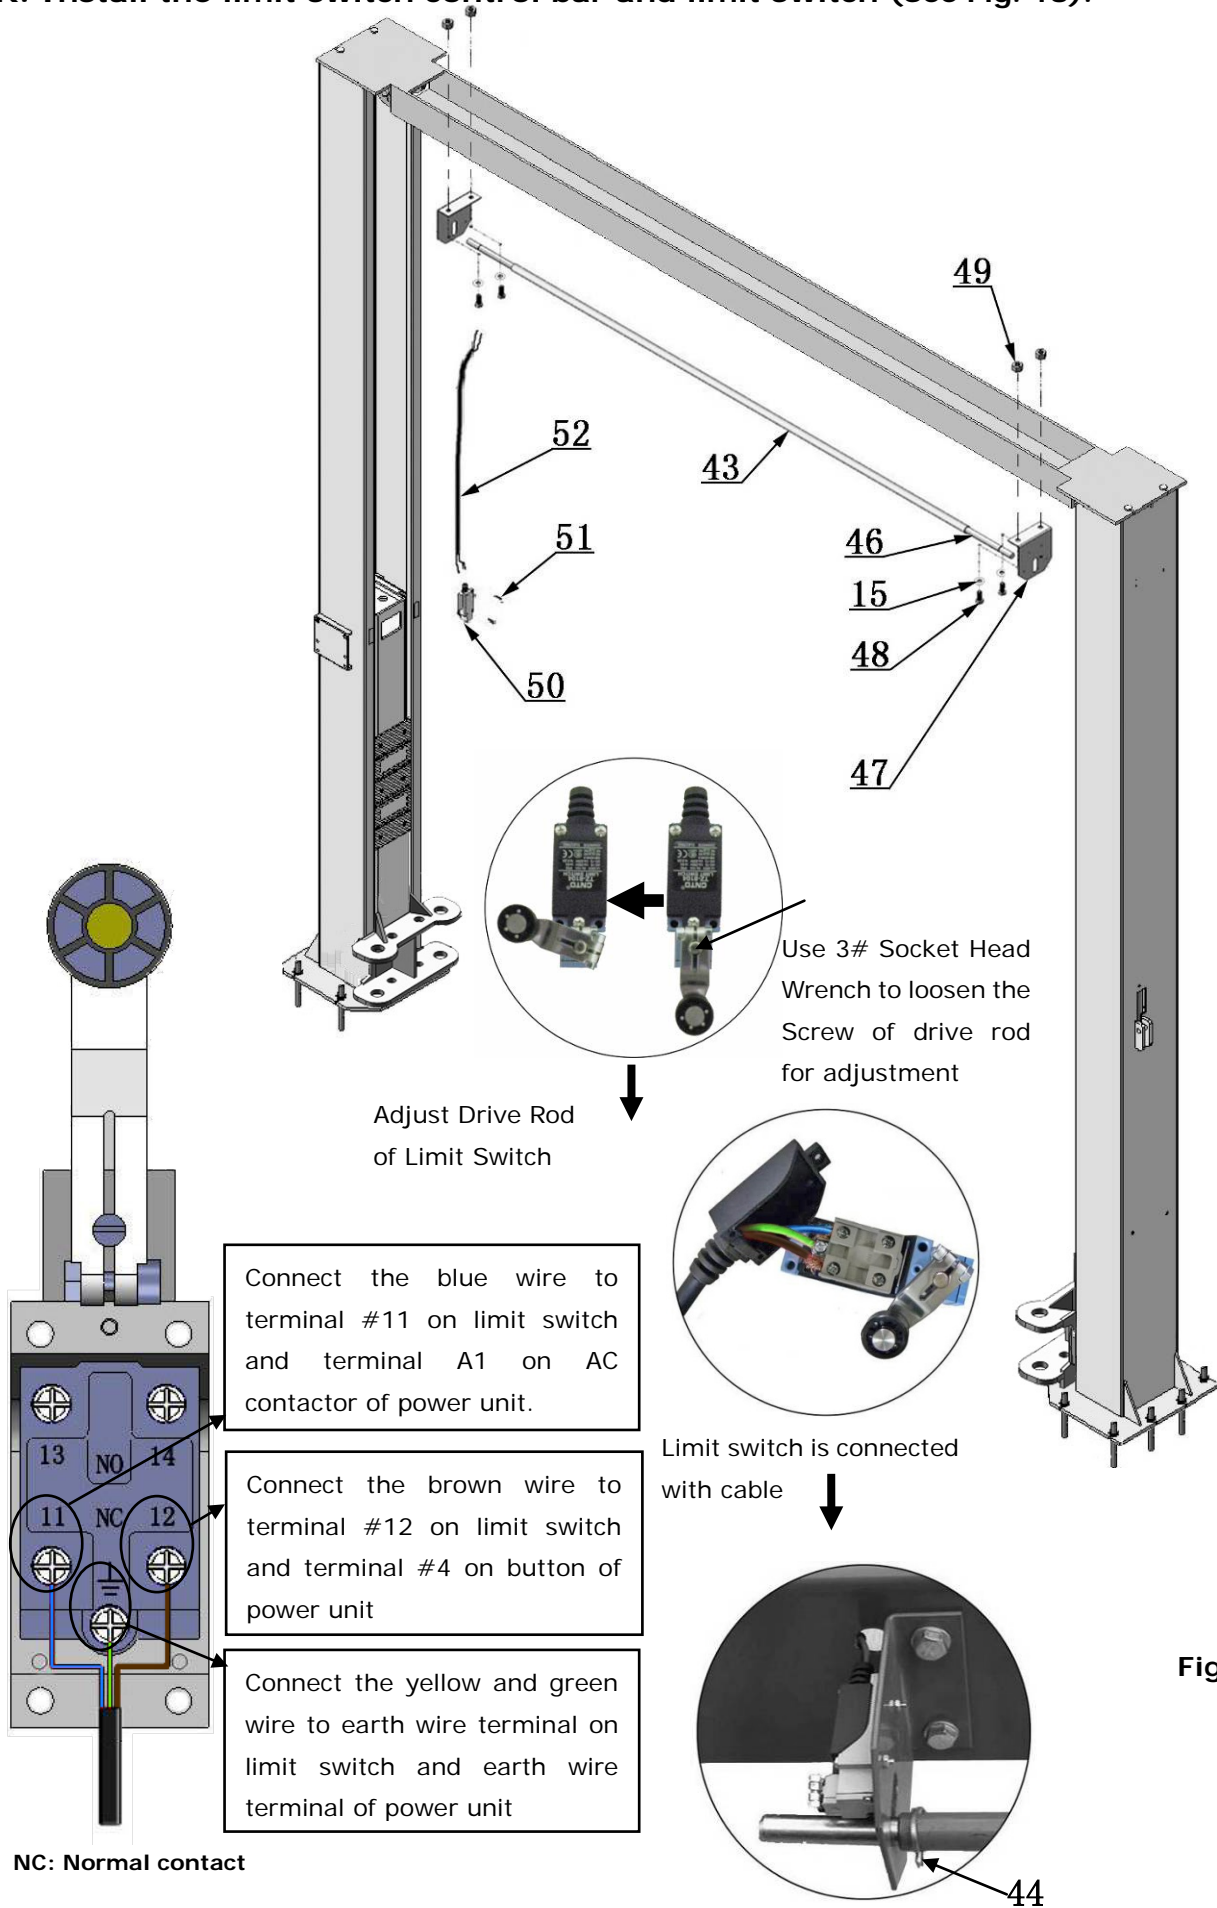

Fig. 18
K. Install the limit switch control bar and limit switch (See Fig. 18).